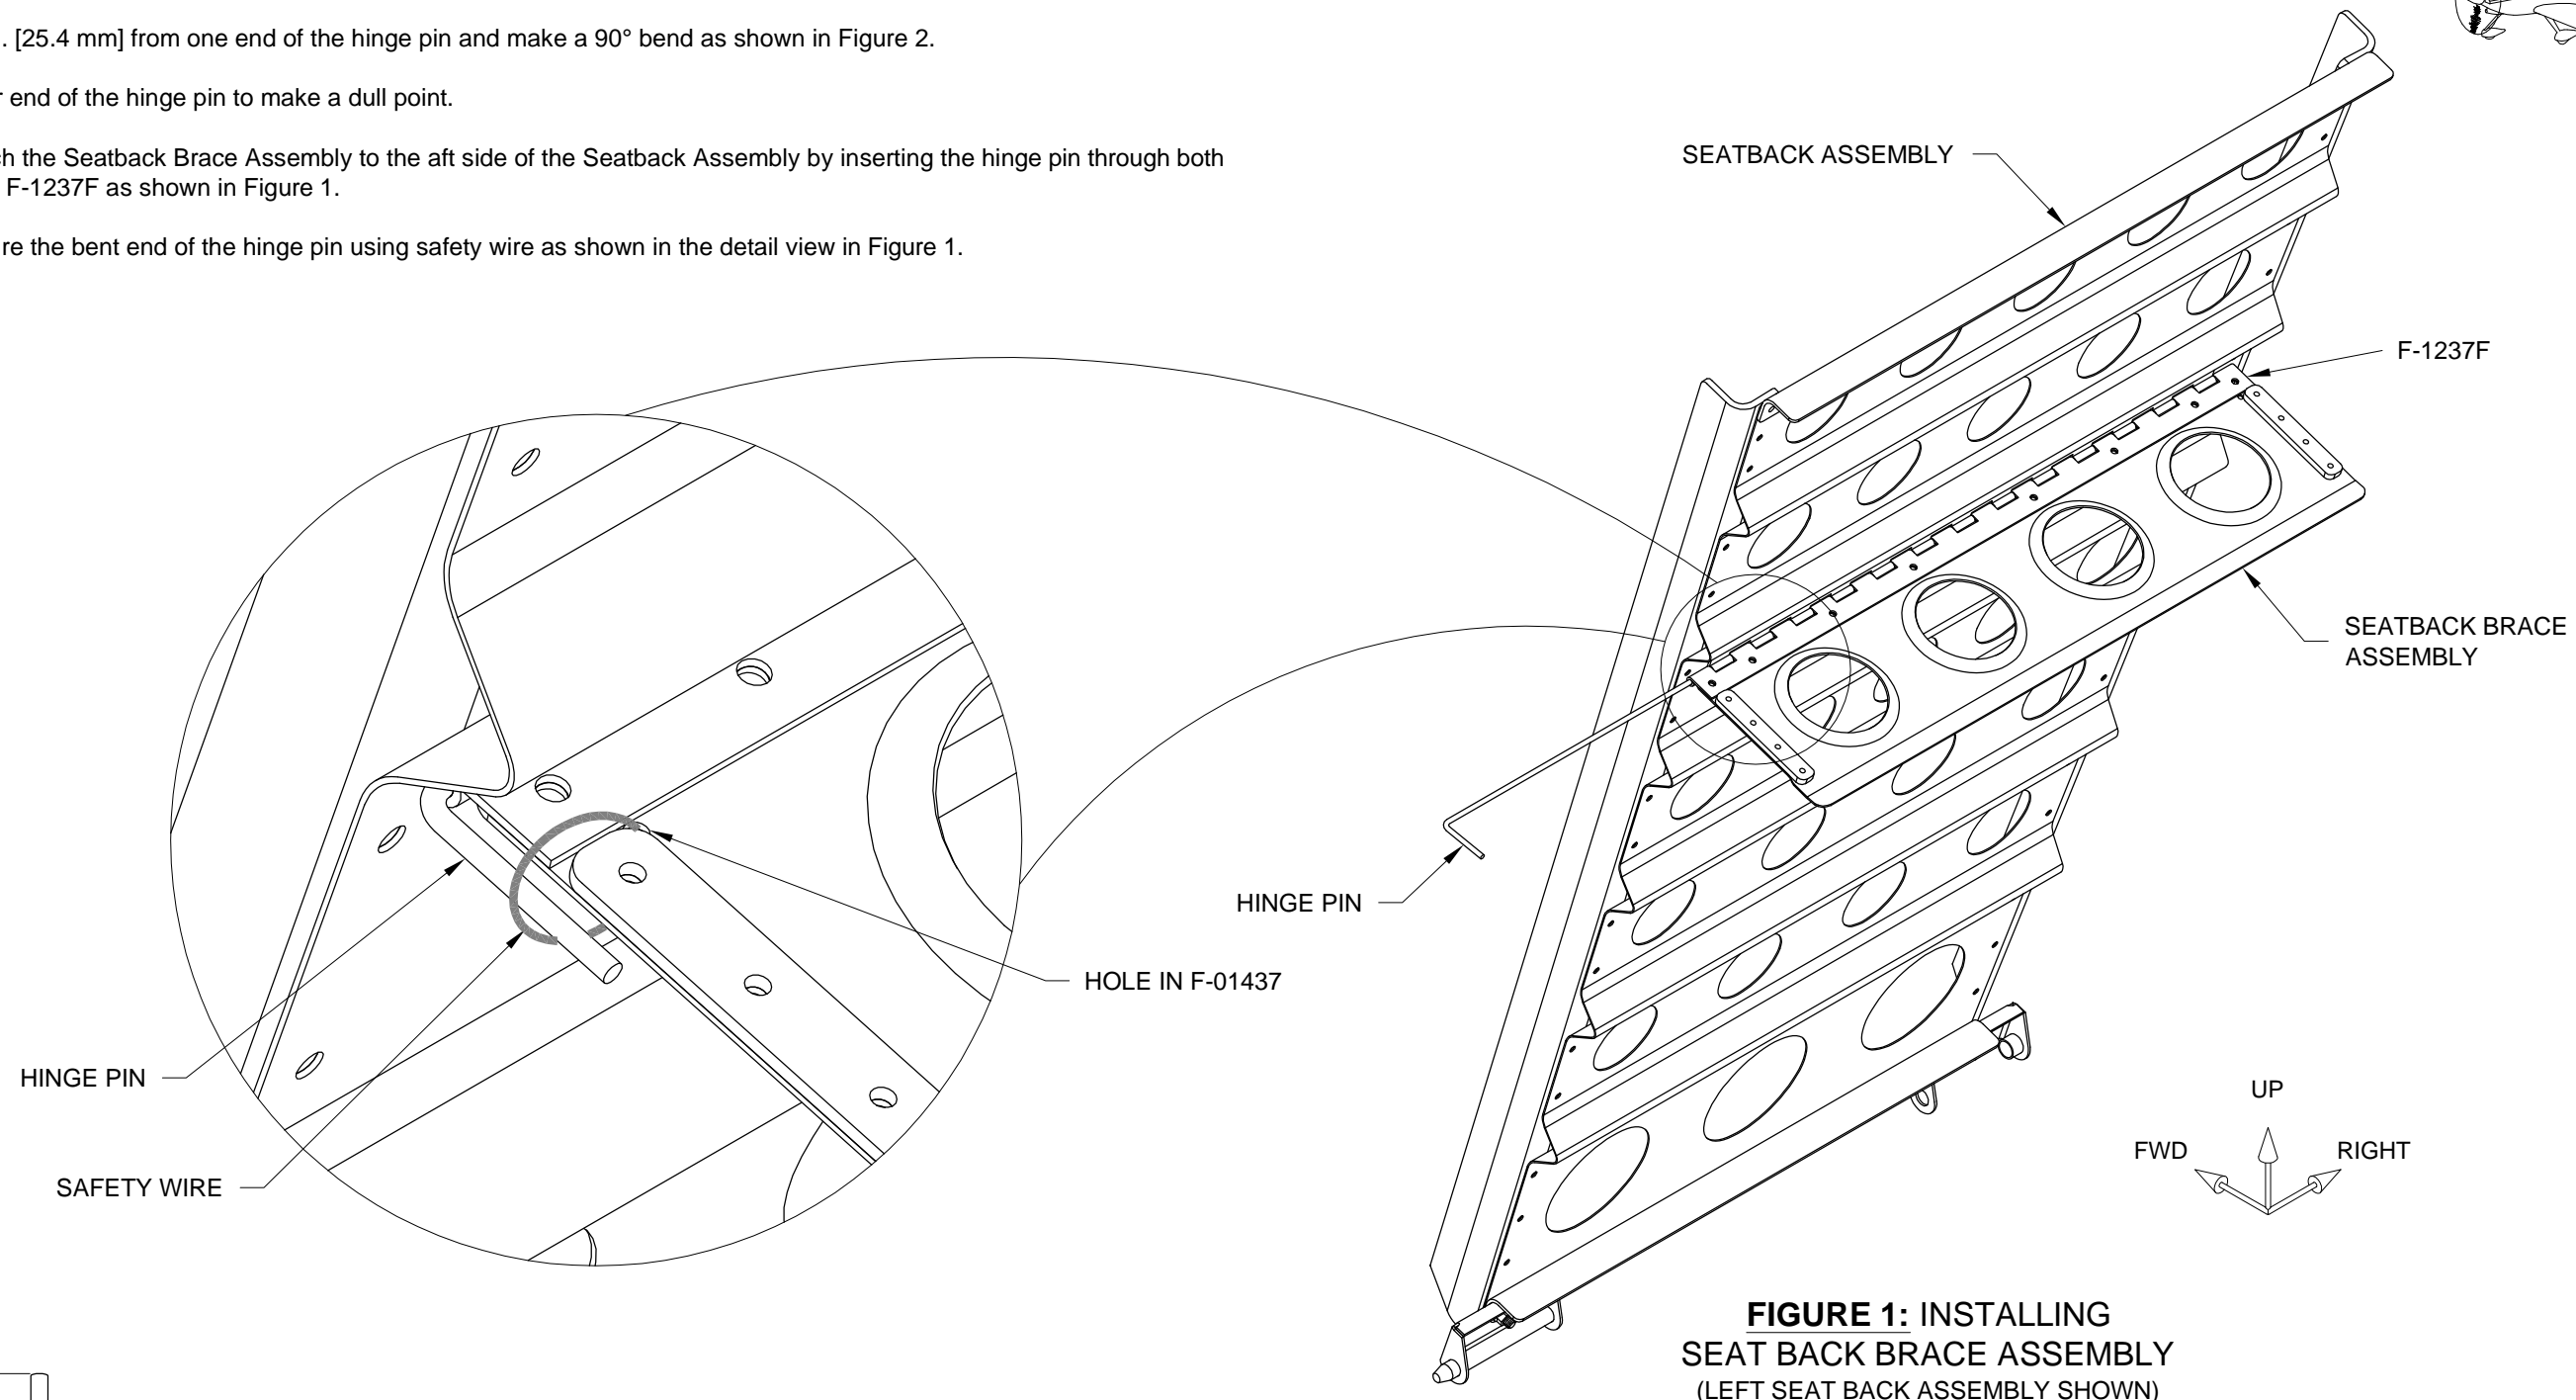

FIGURE 1: INSTALLING SEAT BACK BRACE ASSEMBLY
Step 3: Secure the bent end of the hinge pin using safety wire as shown in the detail view in Figure 1.